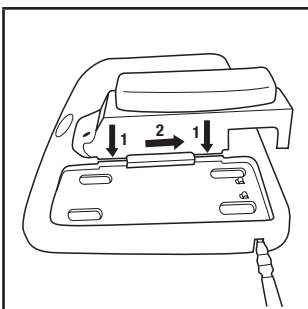

Fig. 2 - Multi-station charger setup
- 3M™ 4-Station Battery Charger TR-644N: Insert the TR-640 into one of the charging ports on the 3M™ 4-Station Battery Station Base TR-944N and slide back to lock into place (Fig. 2). (NOTE: the 3M™ Versaflo™ Single Station Power Supply TR-941N is not used with the TR-640, when the 4-station charger is used.)